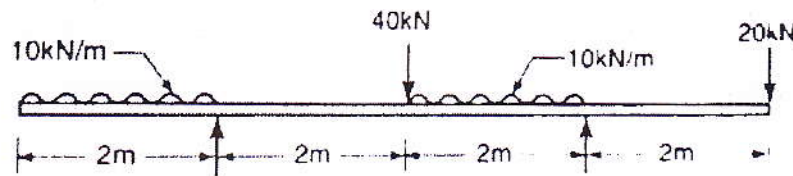

Fig. 2
- Q2) Draw SFD and BMD for loading condition shown in fig 2. Locate point of inflection if any. [16]